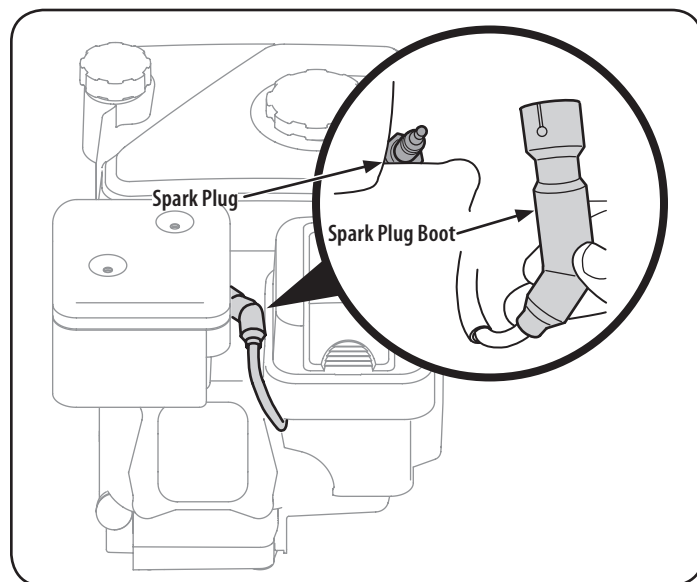

Figure 22
1. Remove the spark plug boot and use a spark plug wrench to remove the plug. See Figure 22.